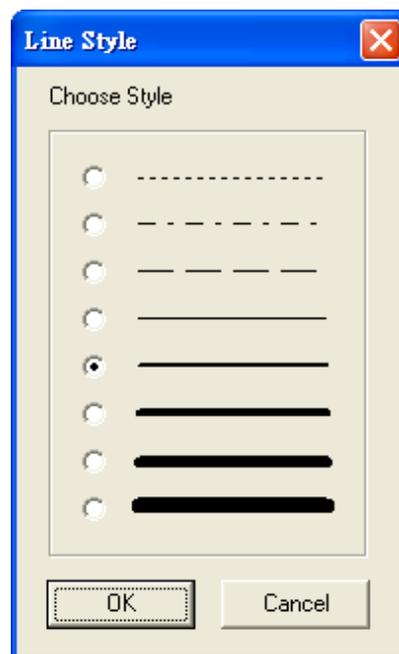

Fig.3-10 Choose line styles
- ⊕ Line Style  : Choose line style by clicking “Line style” button and it will pop up Fig. 3-10 dialog box.